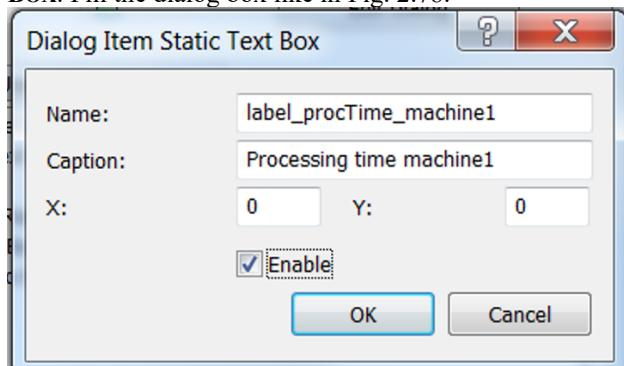

Fig. 2.78 Static text box
1. Click the right mouse button on the tab Elements, and select **NEW STATIC TEXT BOX**. Fill the dialog box like in Fig. 2.78.